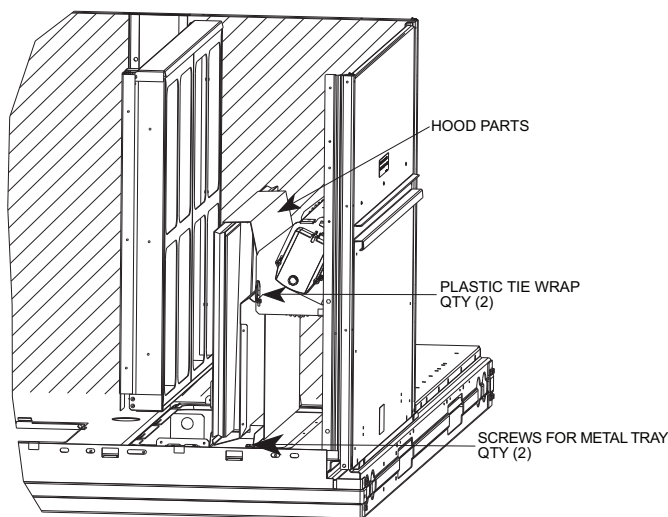

Fig. 14 — Two-Position Damper Hood Package Location
3. Locate the (2) screws holding the metal tray to the basepan and remove. In order to remove the screws, it may be necessary to remove the panel underneath the two-position damper. Remove the two screws. Locate and cut the (2) plastic tie-wraps securing the assembly to the damper. (See Fig. 14.) Be careful to not damage any wiring or cut tie-wraps securing any wiring.